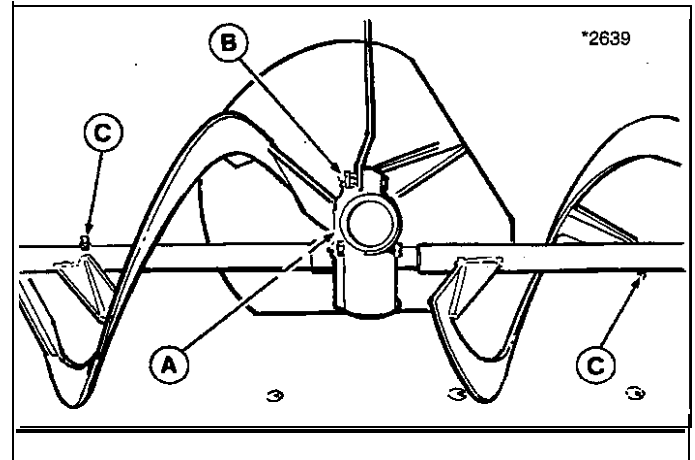

Figure 14. Auger Gearbox
4. Make sure oil level in auger gearbox and speed reduction gearbox is correct (oil level should be even with check plugs). Refer to figures 14 & 15 on page 13.
- d. Remove check plug (A, figure 14).
- e. Level of oil should be even with check plug. If low, remove fill plug (B, figure 14), add Shell Omala 460 Gear Oil.
3. Periodically lubricate the grease fittings located on both knuckles of the PTO shaft and the grease fitting (C, figure 14) on each end of the auger.